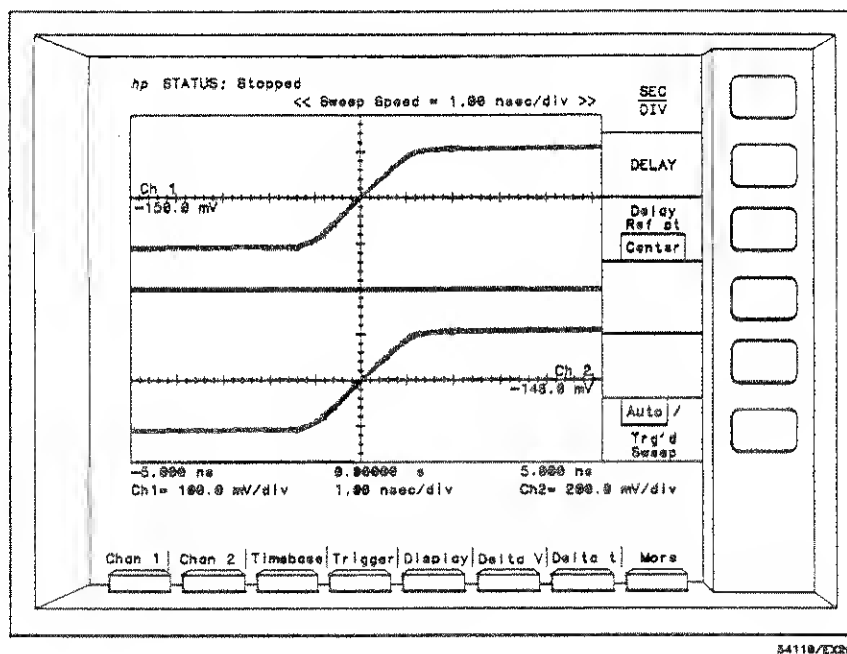

Figure 7-31. Precise Timing Resolution on Channels 1 & 2.
4. Select the Timebase menu and set the SEC/DIV to 1 nsec/div (Figure 7-31). Notice the more precise time resolution (number of data points) on the edges of the signal as compared to the low timing resolution.
7. Return to the Wfm Math menu and turn Func 1 on. The resulting chan 1 versus chan 2 (top of Figure 7-34) shows rectangular steps that occur when insufficient edge resolution is used. This is a result of the random repetitive sampling technique used in the 54110D, where by, many voltage points can be taken in the same time interval (as referenced to the trigger). Channel to channel timing skew may further aggravate this situation. To eliminate this phenomena, you should increase time resolution on the edges as shown in figures 7-31 and 7-32. These expanded waveforms allow for more data points on the given waveforms. The increased number of data points on the waveforms reduce the potential for inaccuracies.